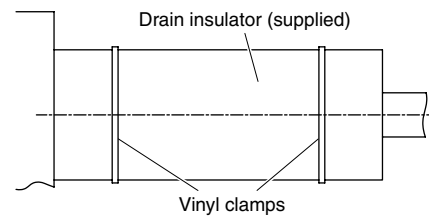

Fig. 3-92
- After connecting the drain piping securely, wrap the supplied packing and drain pipe insulator around the pipe, then secure it with the supplied vinyl clamps. (Fig. 3-92)